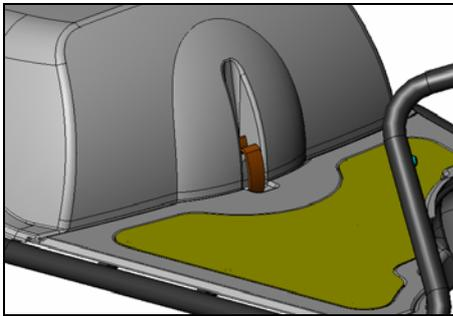

Figure 20
- b. Open **Batteries Cover - (See Fig. 20)**.